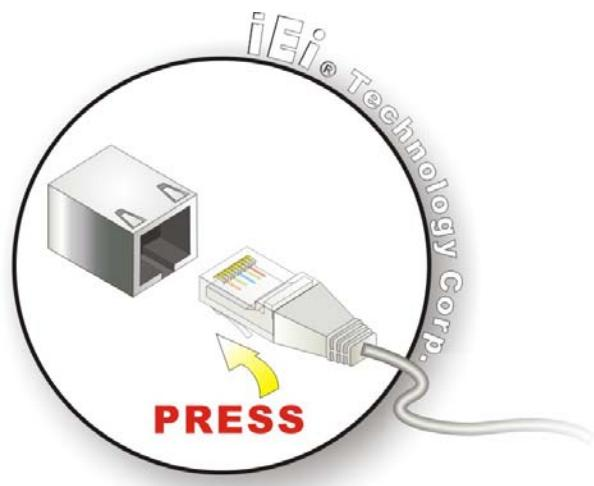

Figure 4-16: LAN Connection
Step 2: Align the connectors. Align the RJ-45 connector on the LAN cable with one of the RJ-45 connectors on the NOVA-945GSE. See **Figure 4-16**.